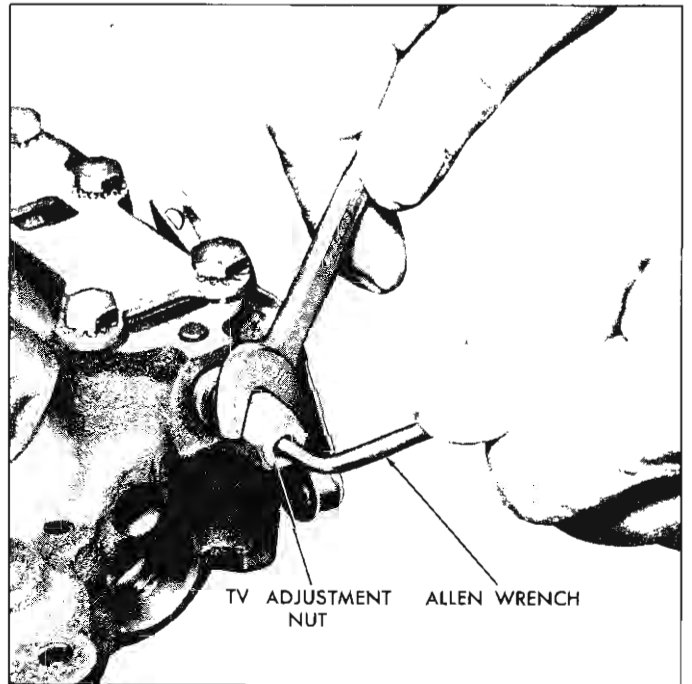

Fig. 42—TV Adjustment Nut
(fig. 42). To raise TV pressure 3 psi, back-off the jam nut one (1) full turn. This increases the dimension from the jam nut to the throttle valve assembly stop. Conversely, tightening the jam nut one (1) full turn lowers TV pressure 3 psi. A difference of 3 psi in TV pressure will cause a change of approximately 2 to 3 mph in the wide open throttle upshift point. Smaller pressure adjustments can be made by partial